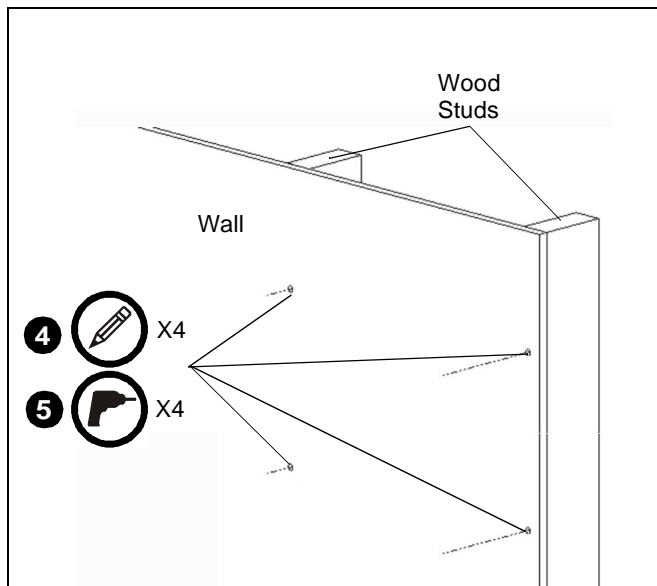

Figure 1
2. Using a stud sensor, locate the two wood studs where you will mount the MSP-HYT1. (See Figure 1)